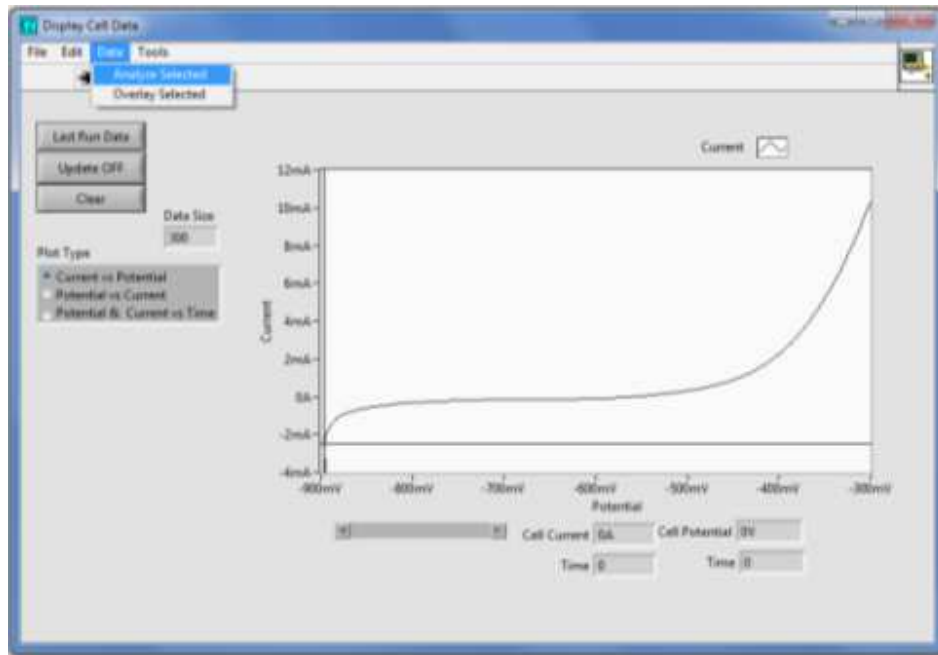

**Figure 60.** Second anodic scan chosen for data overlay
1. If the user has already selected a section of data from [Display Cell Data] to analyze, another set of data can be selected from the window to overlay on top of the first. To do this, return to [Display Cell Data] and select **Last Run Data**, located on the top left of the window. This will redisplay all of the originally collected data. In Figure 60, the third anodic scan is selected.